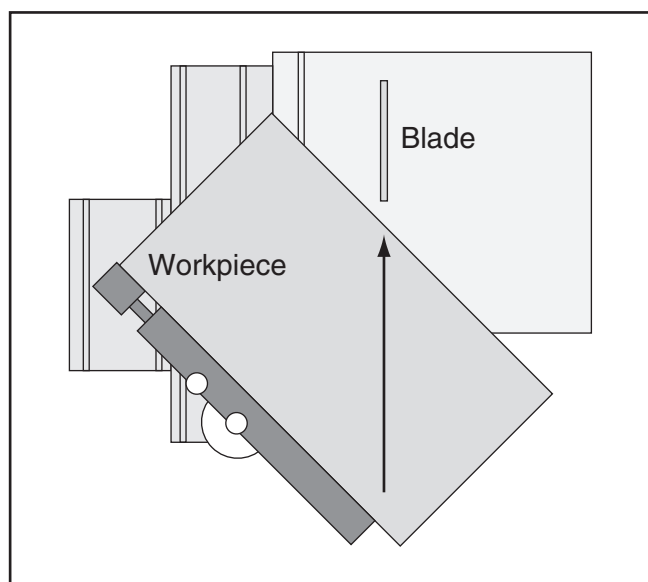

Figure 20. Example of miter cutting with the fence positioned 45° to the right.
2. Position the fence at the rear of the sliding table and at the correct angle, then lock it in place (see the example illustrations in **Figures 20–21**).